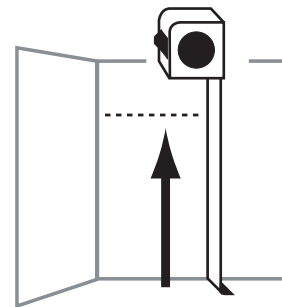

FIG. 1.0
1. Using the height location measurements for the **TOP (A)** shelf, measure from the floor up and mark the top shelf location on the back closet wall. (Fig. 1.0)